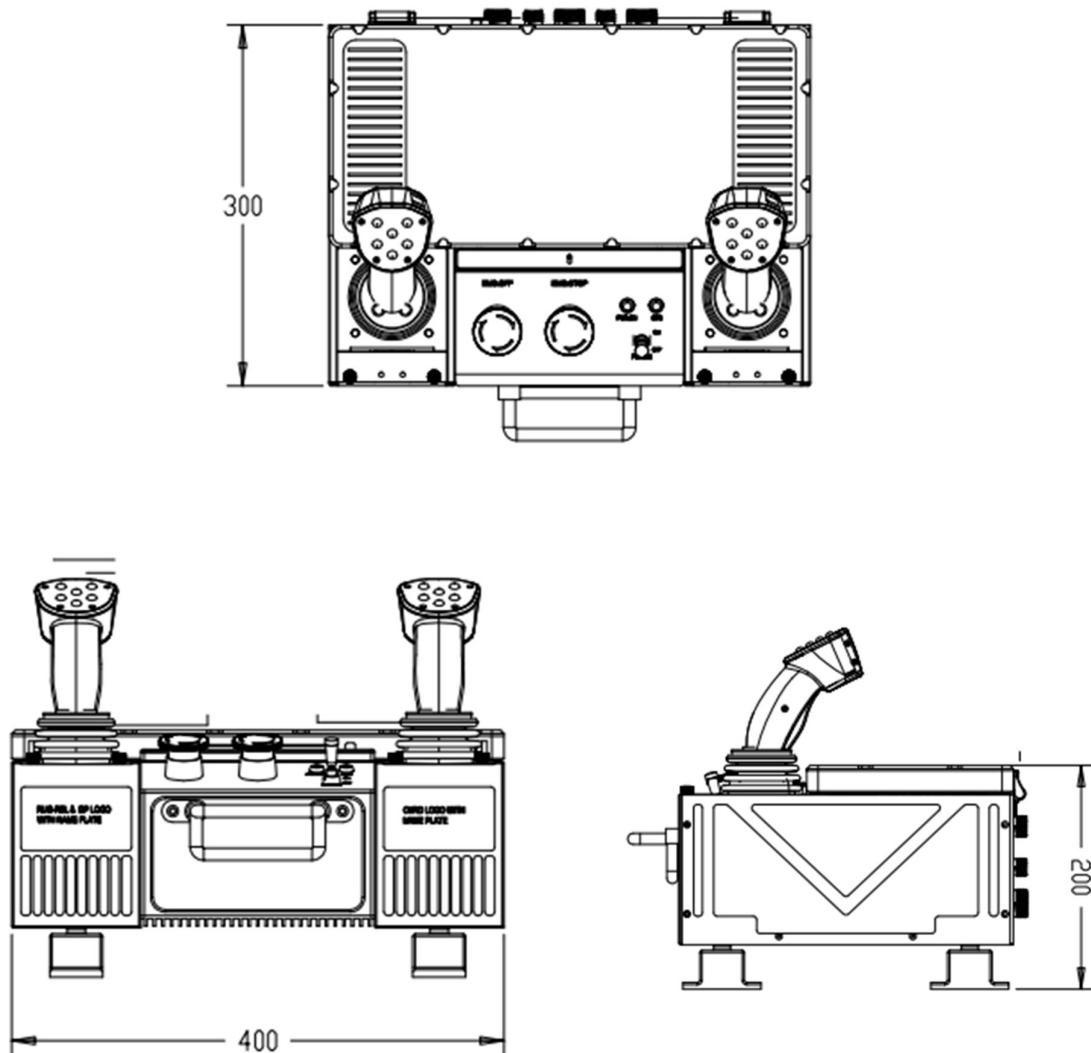
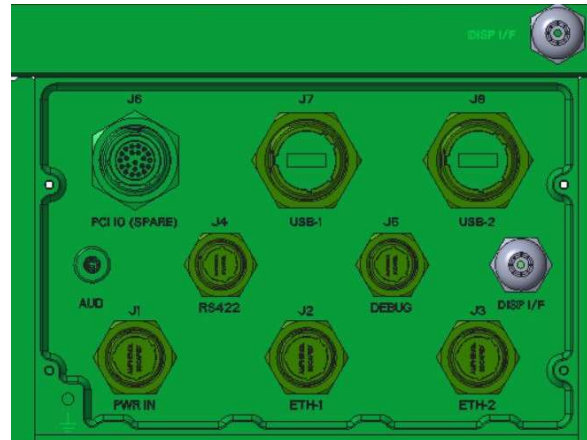
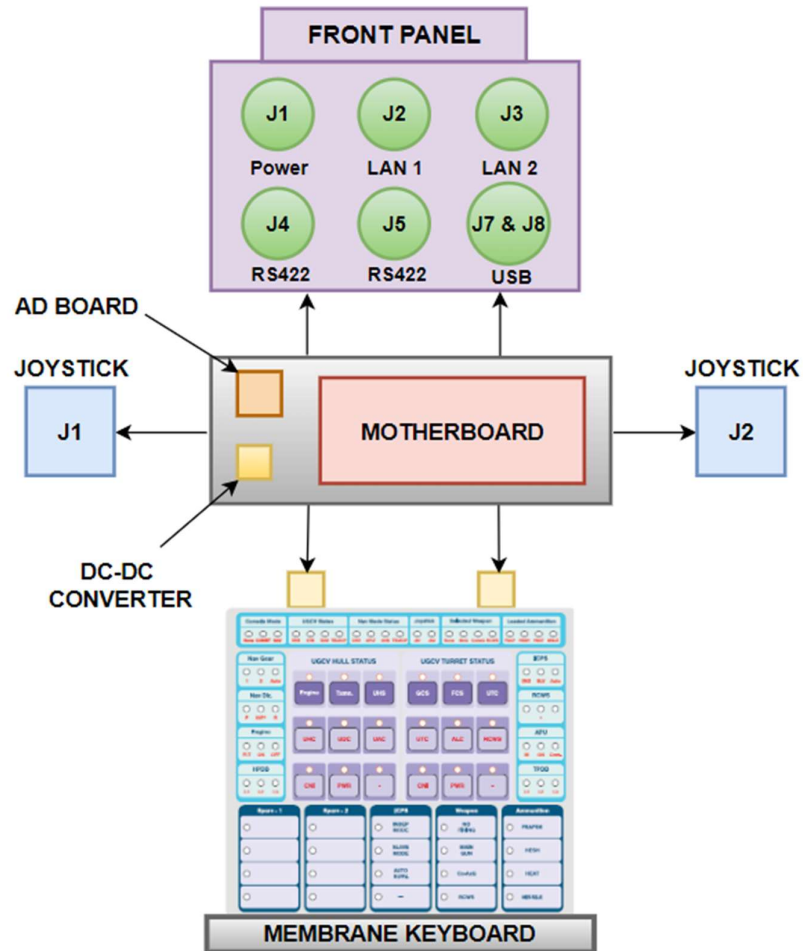
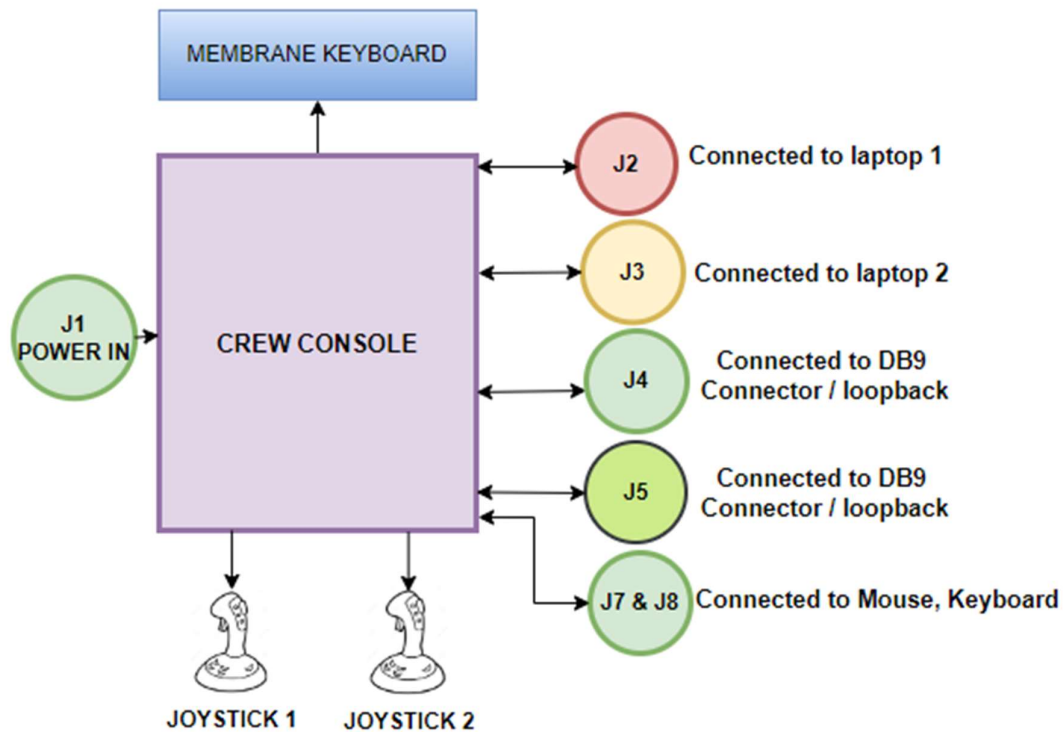

Figure 3: GA Drawings of CREW CONSOLE
Figure 4: External interface details of CREW CONSOLE
Figure 5: Internal Block Diagram of CREW CONSOLE
Figure 6: Test setup for functional test of **CREW CONSOLE**
<div> <p>Table of Figures:</p> <p>FIGURE 1: ISOMETRIC VIEW 1 OF CREW CONSOLE10</p> <p>FIGURE 2: ISOMETRIC VIEW 2 OF CREW CONSOLE10</p> <p>FIGURE 3: GA DRAWINGS OF CREW CONSOLE.....11</p> <p>FIGURE 4: EXTERNAL INTERFACE DETAILS OF CREW CONSOLE12</p> <p>FIGURE 5: INTERNAL BLOCK DIAGRAM OF CREW CONSOLE13</p> <p>FIGURE 6: TEST SETUP FOR FUNCTIONAL TEST OF CREW CONSOLE.....14</p> <p>FIGURE 7: TESTING FOR JOYSTICK 1 & 2 APPLICATION18</p> <p>FIGURE 8: MAIN GUI INTERFACE21</p> <p>FIGURE 9.A): TESTING OF EMERGENCY OFF & STOP BUTTONS (ON)24</p> <p>FIGURE 9.B): TESTING OF EMERGENCY OFF & STOP BUTTONS (OFF)25</p> <p>FIGURE 10: TEST SETUP OF ETH PING TEST.....30</p> <p>List of Tables:</p> <p>TABLE 1: TECHNICAL SPECIFICATION OF CREW CONSOLE 8</p> <p>TABLE 2: TEST CASES OF CREW CONSOLE..... 9</p> <p>TABLE 3: CONNECTOR DETAILS OF CREW CONSOLE12</p> <p>TABLE 4 : LIST OF TEST CABLES15</p> <p>TABLE 5: LIST OF EXTERNAL DEVICES.....15</p> <p>TABLE 6: LIST OF DRIVERS/SOFTWARE TO BE INSTALLED15</p> </div>
The test set up used in the Electrical/Functional tests of **CREW CONSOLE** is as depicted in Figure 6.